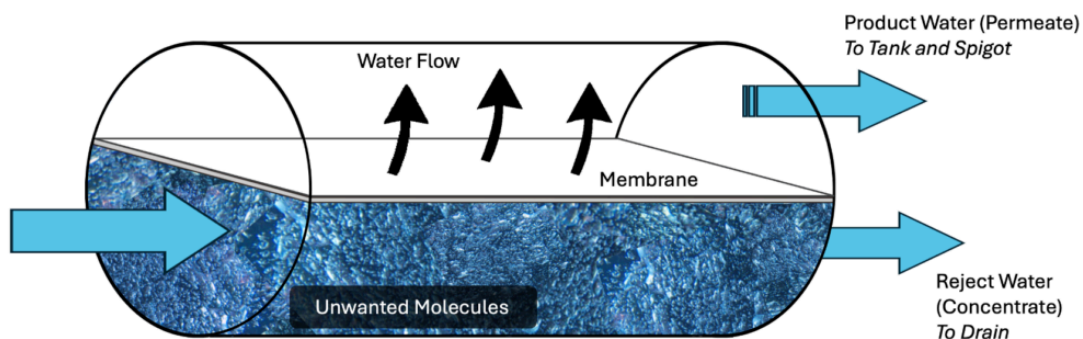

Figure 14. RO unit filters, tank, and membrane
- Figure 14. “RO unit filters, tank, and membrane”